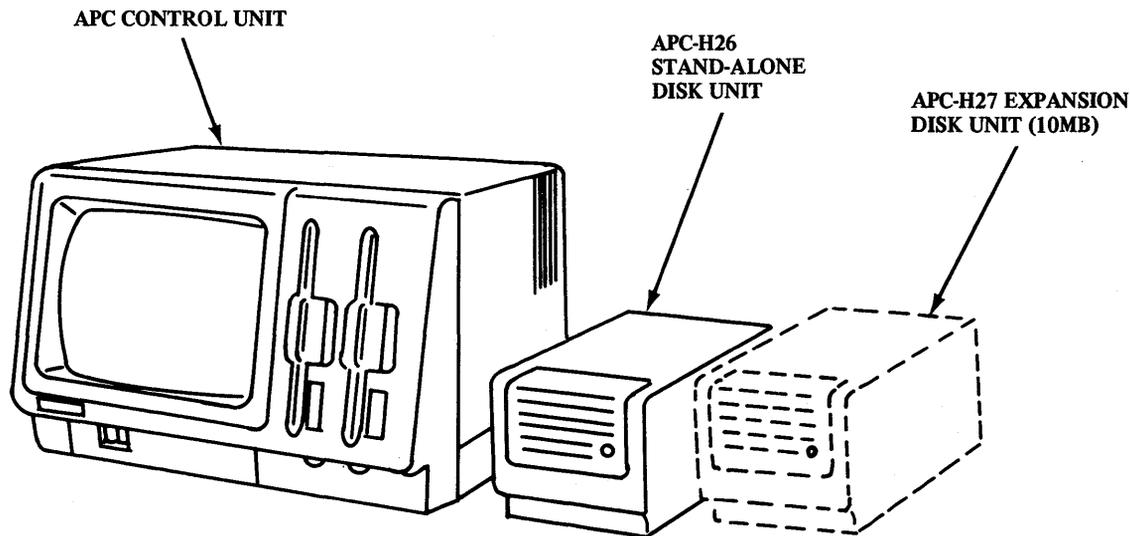
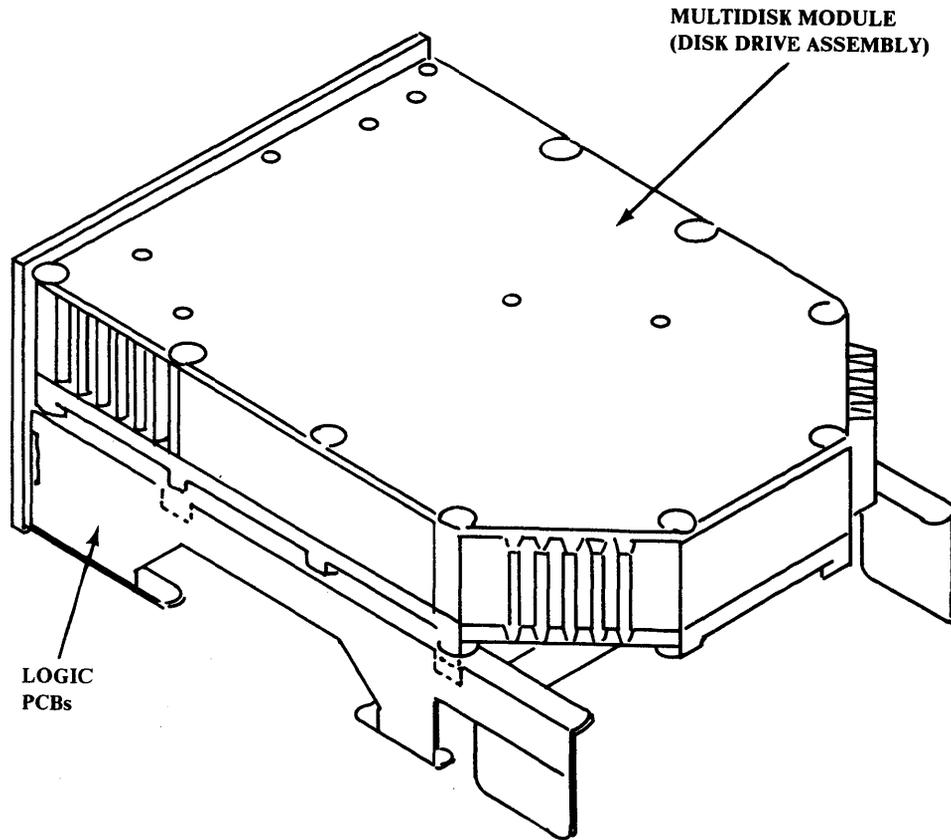

Figure 1-1 Typical APC System Configuration
Figure 1-2 Multidisk Module (Disk Drive Assembly)
The APC disk subsystem is used as an external storage device in an APC system (see Figure 1-1). It comes as a stand-alone Disk Unit (DKU), model APC-H26, and an expansion DKU, model APC-H27. The stand-alone DKU is also referred to as the master and the expansion unit as the slave. Each model provides a disk storage capacity of approximately 10 Megabytes (MB) of formatted data. When installed together they provide an overall storage capacity of approximately 20 MBs. Included in each model is a sealed multidisk module designed to improve the operational reliability by minimizing contaminants on the recording surface (see Figure 1-2). Operational reliability is further improved with the use of magnetic heads with NEC Large Scale Integration (LSI) circuits designed to enhance the weakest signals.
This chapter provides the structural characteristics for the two major DKU PCBs used in an APC system configuration (see Figures 1-1 and 1-3), and includes a brief description of their functional capabilities. The two major PCBs are as follows.